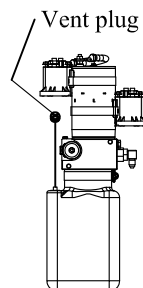

Figure 11: Vent plug.
5. **Remove** the vent plug from the pump reservoir (Figure 11).